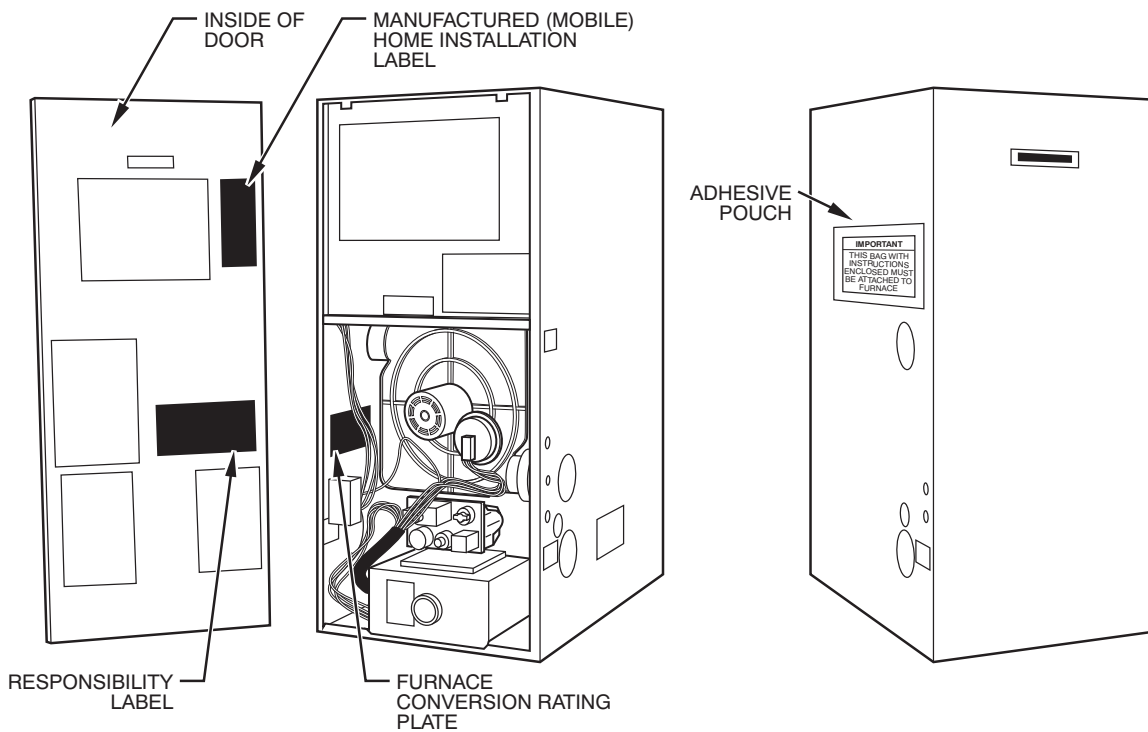

Fig. 6 - Furnace Component and Conversion Label Location in Downflow Orientation
NOTE: See Fig. 6 for label location.
1. Attach Conversion Responsibility Label (334973-101) inside of main furnace door. Date, name, and address of organization making this conversion are required. (See Fig. 6.)
2. Attach Conversion Rating Plate Label (334974-101) inside of lower left-hand side of controls compartment (down-flow) as shown in Fig. 6.
3. Attach Manufactured (Mobile) Home Installation Label (322236-101) inside of main furnace door. (See Fig. 6.)